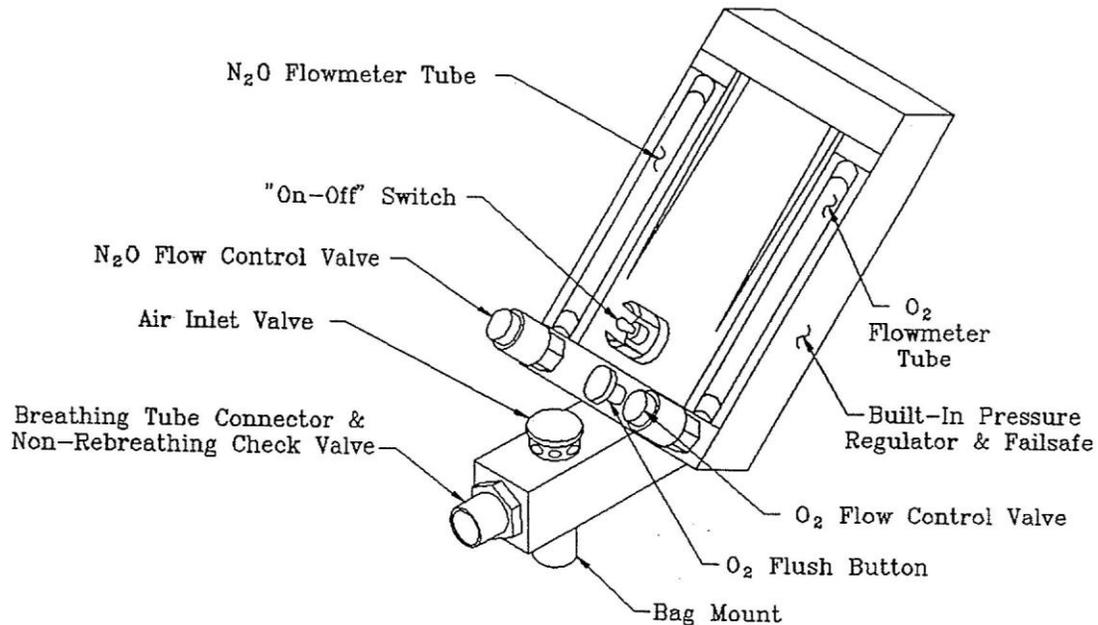

Figure 30
- A. Position the on – off switch in the off position. See Figure 30.
- B. Rotate both nitrous oxide and oxygen flow control valves fully clockwise until they stop. See Figure 30.
The failure of any one of the following test will require the analgesia unit to be returned for service. These tests must be conducted periodically to insure that your analgesia unit is performing optimally (see fig 30).
A. **The Controls and Indicators** (Refer to Figure 30)